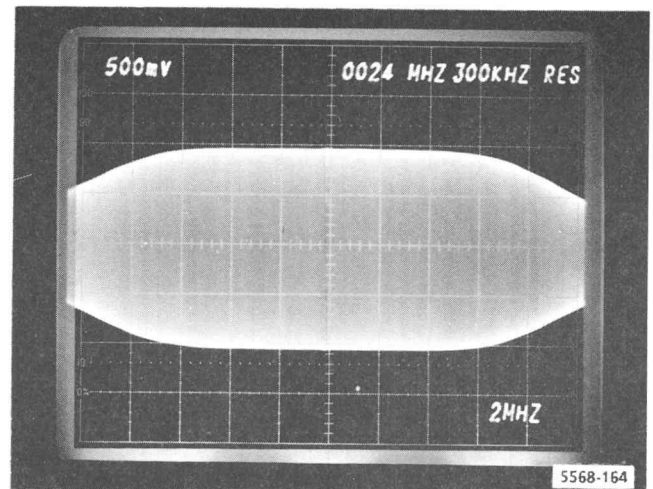

Fig. 4-44. Preliminary waveform when adjusting low pass filters.
- Set the tracking generator output level for a 2 V p-p display at the center of the envelope. Use the differential comparator offset control as necessary to display the envelope. See Fig. 4-44.